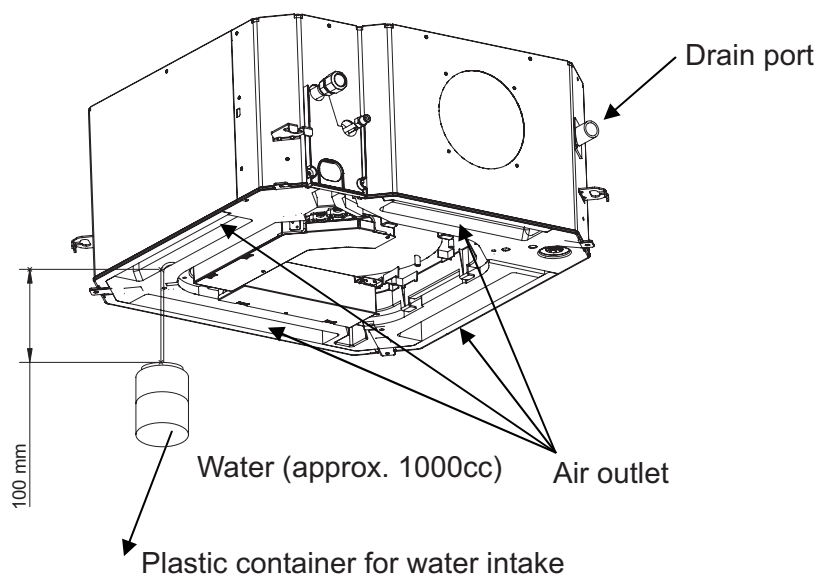

Fig.14
3. Slowly inject about 1,000 cc of water into the drain pan.(Fig.14)